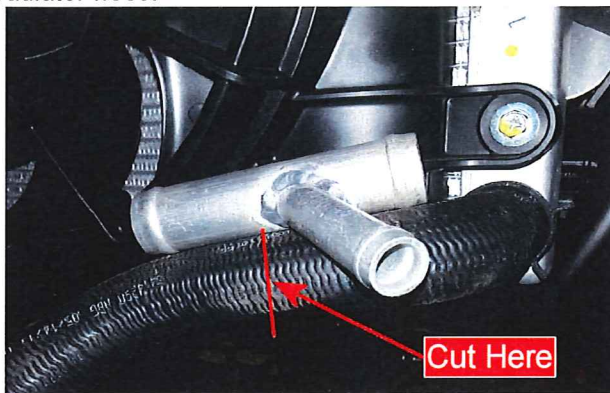

Figure 12a
2. Cut the radiator hoses as shown in Figures 12a and 12b.
4. Insert the Aluminum Y Connectors exactly as positioned in Figures 12a, 12b and 13 in the radiator hoses and secure with #16 Hose Clamps.
- b. Route the other ½ of Radiator Hose that comes down the drive shaft tunnel toward the Aluminum Y Connector nearest the radiator (see Figure 12a)